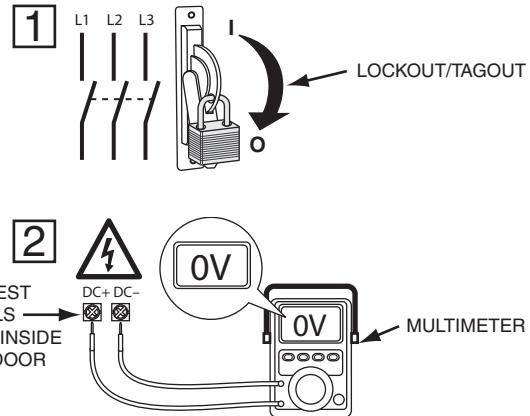

Fig. 20 — Check DC Bus Terminals
2. Check to be sure that the voltage between DC+ and DC- and from each DC terminal to the chassis is zero before proceeding. See Fig. 20.